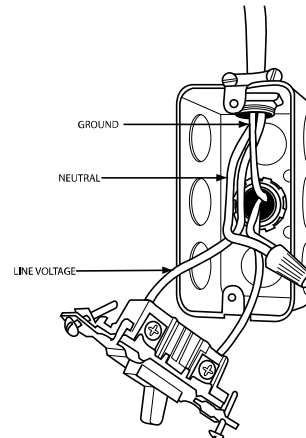

Fig. 27 – Field-Supplied Electrical Box on Furnace Casing
12. Complete electrical box wiring and installation. Connect line voltage leads. (See Fig. 27). Use best practices (NEC in U.S. for wire bushings, strain relief, etc).